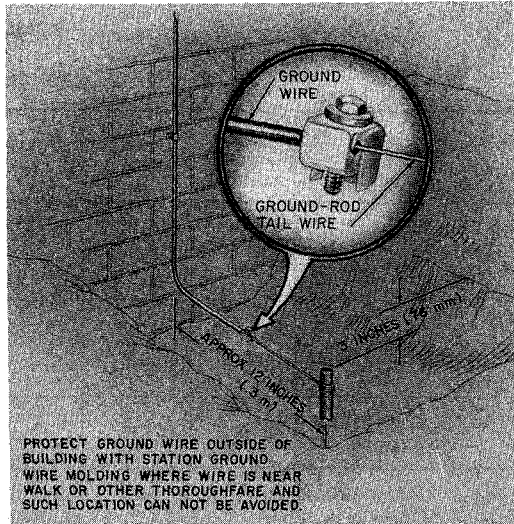

Fig. 77—Ground Rod Installed Near Wall
- (c) Approximately 12 inches from outside walls (Fig. 77)
9.06 After the No. 10 or No. 12 station ground wire is installed, it is attached to the ground rod tail wire with a size 6 AT-7796X connector (Fig. 77). Tighten the ground rod tail and ground wire securely in the connector; **do not tape this connection**. If a 6-gauge ground wire must be terminated on the ground rod, select the proper ground clamp per Table E.